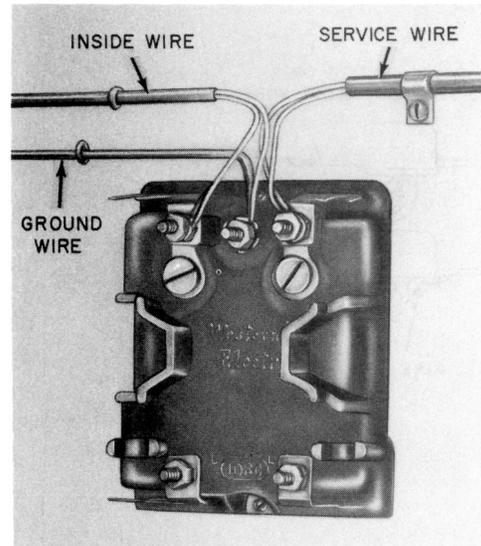

Fig. 105—Alternate Method of Converting 106C Protector
14.03 The 106C and the 1293C (MD) protectors may be converted to fuseless operation by connecting the aerial or buried drop input line wires directly to the station side of the protector, provided the line wires are of sufficient length. The fuses may then be removed (Fig. 105). Where the input line wires are too short to reach the station side of the protector, install two 213A